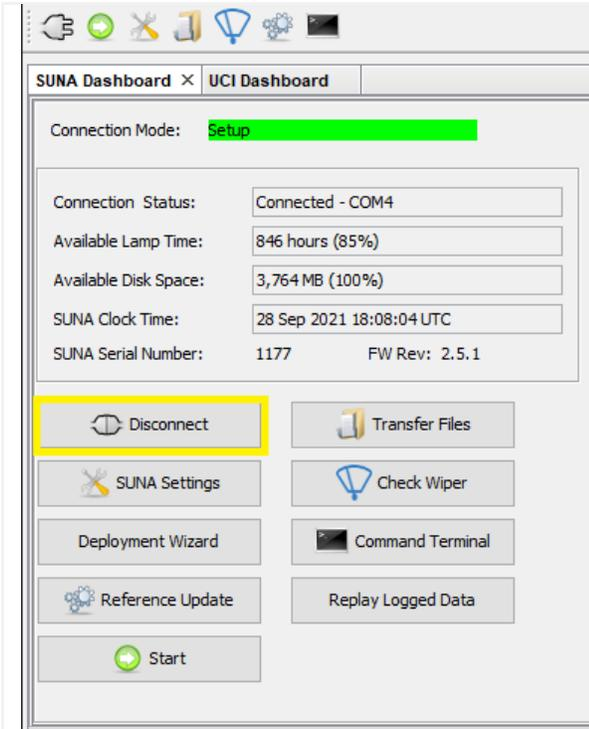

Figure 55. In SUNA Dashboard, select “Disconnect”
**STEP 1** | In the **SUNA Dashboard**, select the “**Disconnect**” button **BEFORE** disconnecting the USB connection from the laptop and cable from the SUNA (Figure 55).